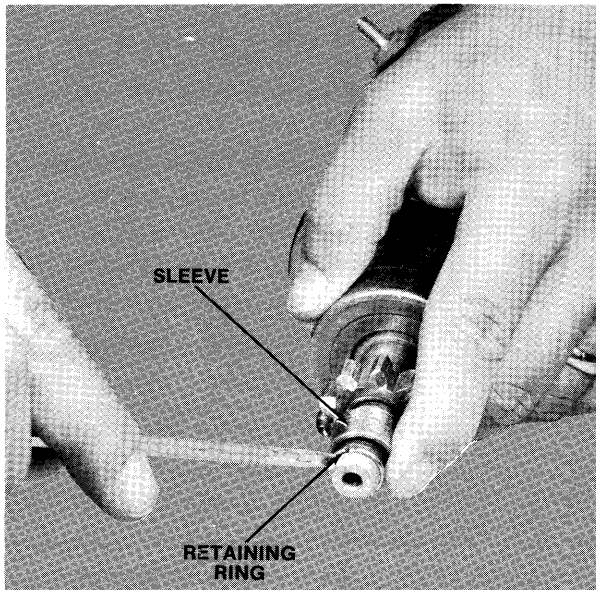

Figure 1—Removing Retaining Ring
- B. Remove two (2) bolts securing starter bracket — lower to powerhead.
- C. Remove lock nuts on two (2) thru bolts which secure starter bracket — lower to starter to powerhead.
- E. Thread two (2) thru bolts out of flange on powerhead and remove starter motor assembly. Pull thru bolts out of starter motor and remove starter bracket — lower.
- G. To remove bendix drive, pull down on sleeve compressing spring and exposing retaining ring as shown in figure 1. Remove retaining ring and turn bendix off starter motor.